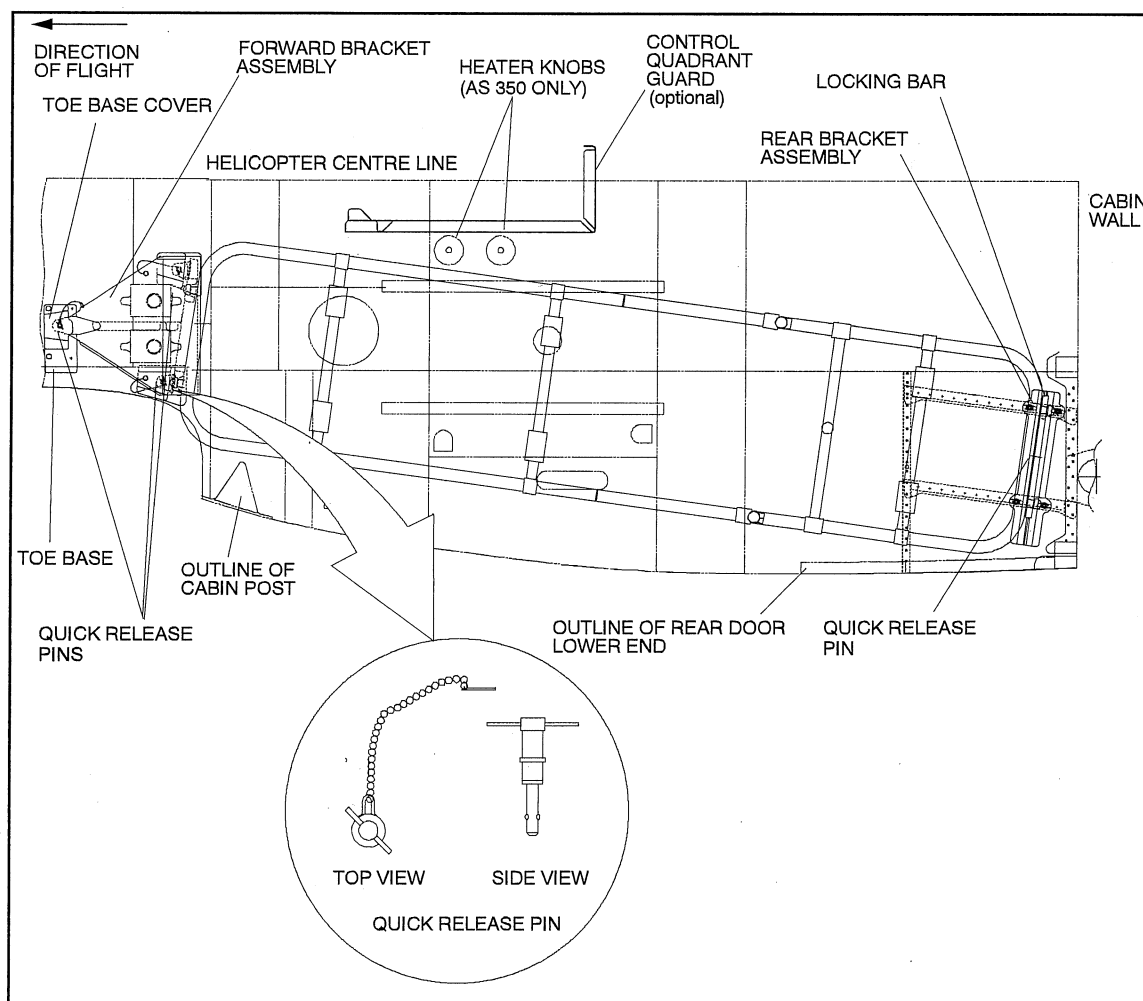

Figure 1 General Layout (Standard Installation)
The Left- Hand Litter Kit installation (P/N 350- 200034) utilizes a FWD Bracket Assembly, with Toe Base, and a Toe Base Cover. Refer to Figure 1.
- Install the forward bracket assembly onto the bracket mounts and secure using quick release pins (3 places). Refer to Figures 1 and 2.